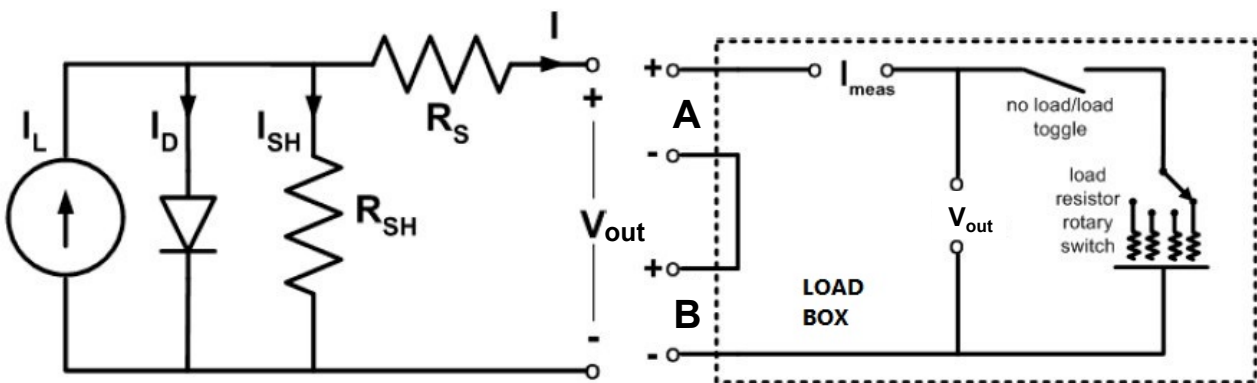

Figure 1: The circuit on the left represents the solar panel. It is connected to the load box on the right, which is used to vary the load resistance R_L .
In Week I, you will characterize the solar panel circuits (as shown in Figure 1) with respect to load and distance from light source. This week, a halogen lamp will be used as a light source in a laboratory setting. Next week, you will go out and perform field tests. Note the solar panel is a non-ideal power supply and has an internal resistance R_S , similar to the battery in the first electronics lab. Please take the time to understand everything this week, as it will provide a foundation for the independent study that you will perform next week.
1. Set the toggle switch to “Short” or “Closed”(load toggle in Figure 1).
3. Plug the black banana cable on the solar panel into the black receptacle B on the load box. (Refer to Figure 1 for further clarification.)
4. Connect the leads of the solar panel into “*Input A*” on the load box (input 1 in Figure 1).
5. Connect the “*V*” leads of the load box (V_{meas} in Figure 1) to the Keysight Precision DMM using the BNC coaxial cable with banana plug adapters on the end.
6. To measure the current, use the orange handheld DMM set to the 200mA range, and connect it to the “*I*” leads on the load box (I_{meas} in Figure 1) using the banana plug cables.
7. Locate the **Irradiance Sensor** (dark blue box). It has twelve different settings that can be chosen for sensitivity and scaling of the voltage output. Setting (9) is recommended for this laboratory exercise.